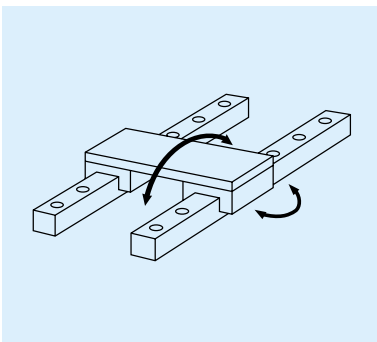

Fig. I-3-5 Pitching and yawing direction
**(4) Selection based on the moment load per ball slide**
- In cases shown in Fig. I-3-5 to •6, •7, it is necessary to consider the moment load applied to the ball slide.